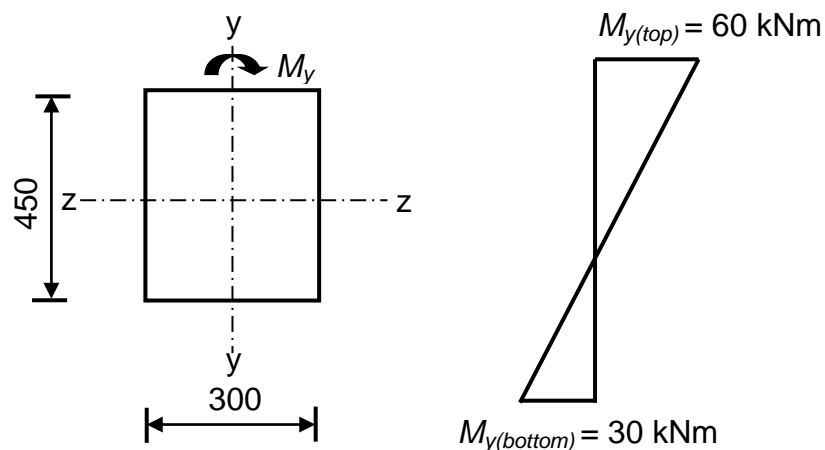

Figure 5 (All dimensions are in mm)
4. An internal column with a cross section of 350 mm × 450 mm is subjected to 3000 kN axial load and bending moment about its major axis as shown in **Figure 5**. The column is classified as braced and non-slender. Design and provide the cross-sectional detailing of the column considering the concrete compressive strength, $f_{ck} = 30 \text{ N/mm}^2$, yield strength of reinforcement, $f_{yk} = 500 \text{ N/mm}^2$, effective length, $l_o = 3200 \text{ mm}$ and concrete cover = 30 mm. Use H20 mm and H8 mm as the main reinforcement and link, respectively. The design chart is provided in **APPENDIX 1**.